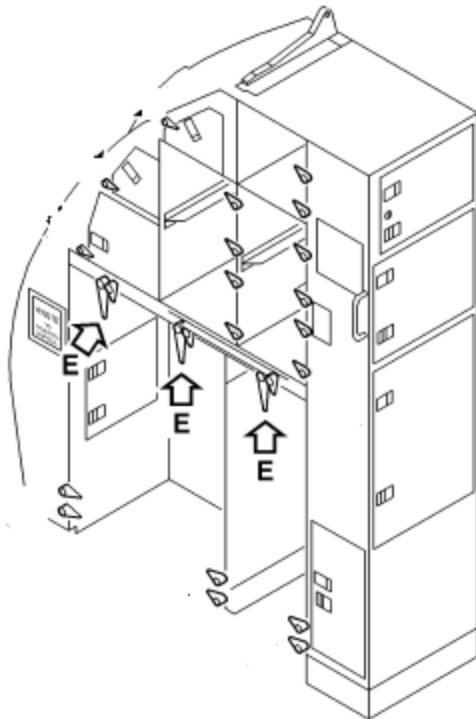

Figure 1
Shown below in Figures 1 & 2 is a sample installation of the P/N 29-014-2004 Turnbutton Assy 90° LH on the Airbus A318-A321 Series Aircraft. (3) Turnbuttons are installed in the galley area on the Airbus A318-A321 Series Aircraft. The P/N 29-014-2004 Turnbutton Assy 90° LH is installed on multiple aircraft at various galley locations to secure various storage carts. The P/N 29-014-2004KT Turnbutton Assy 90° LH is only to be installed in place of the P/N 29-014-2004 Turnbutton Assy 90° LH.